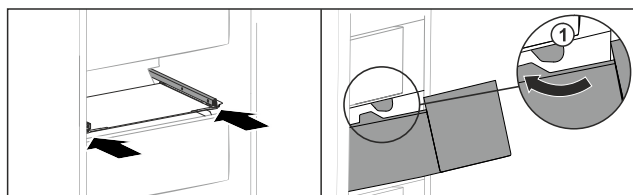

Fig. 169
- ▶ Guide drawer around the stoppers Fig. 169 (1).